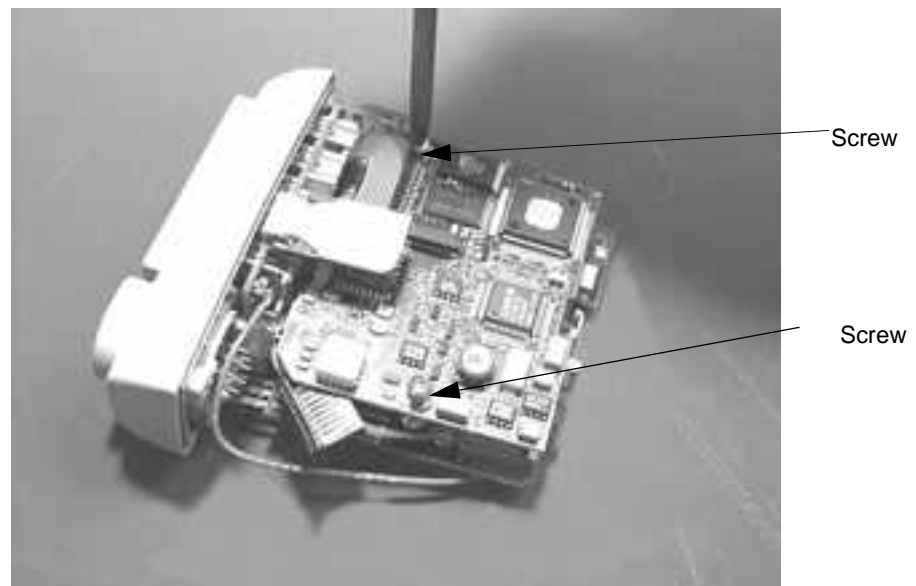

Figure 5-10 Remove the screws from the SpO₂ Board
Step 4. Remove and discard the two screws securing the SpO₂ Board to the Main PCB. See Figure 5-10.